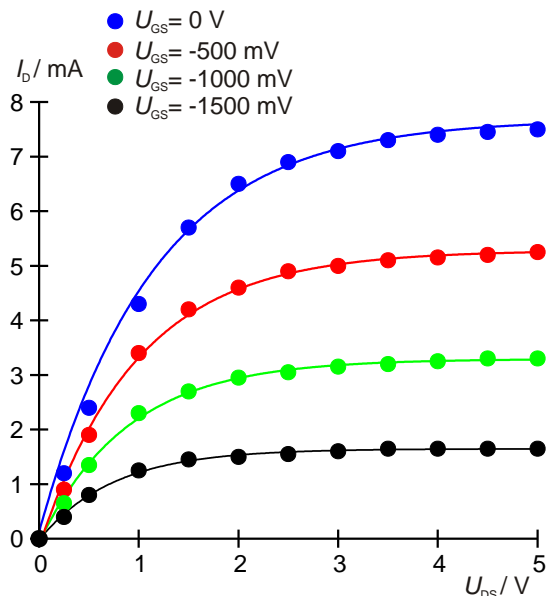

Fig. 5: Characteristic curves for a field effect transistor at various gate voltages.
- Plot a graph of  $I_D$  against  $U_{DS}$  for each of the various gate voltages (Fig. 5)